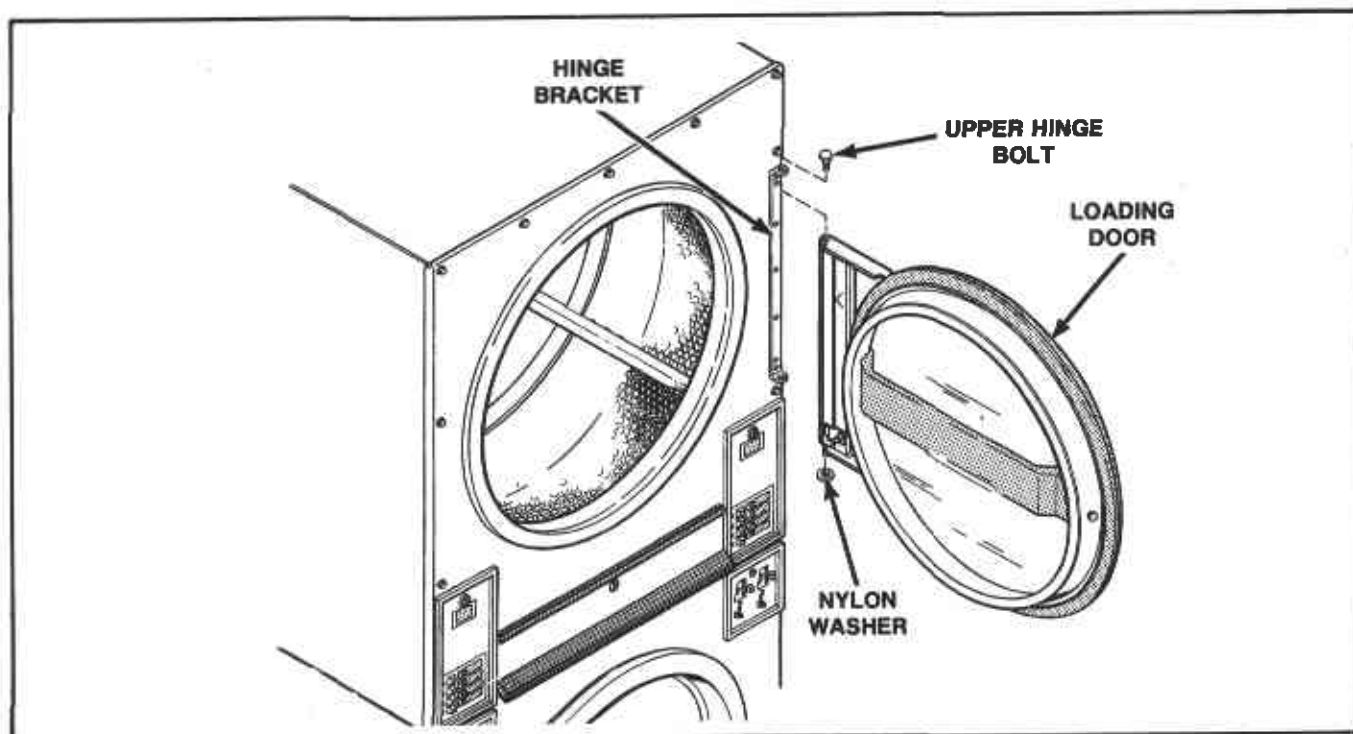

Figure 1
### 2. LOADING DOOR ASSEMBLY (Figure 1)
- While supporting door, remove upper hinge bolt holding door to hinge bracket, *Figure 1*. Remove door.